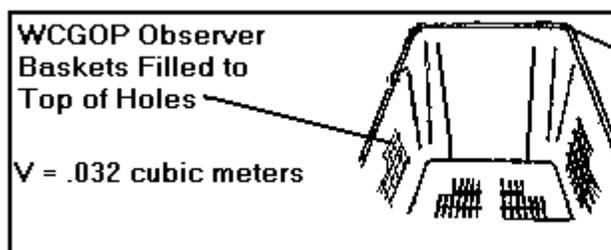

Figure 4-11: WCGOP Observer Basket Volumes
1. **Determine the appropriate volume formulas for each area of the bin(s).** (see Appendix Weights and Measurements). Most bins will be rectangular, however, some will have odd shaped areas (See Figure 4-11 and Figure 4-12).